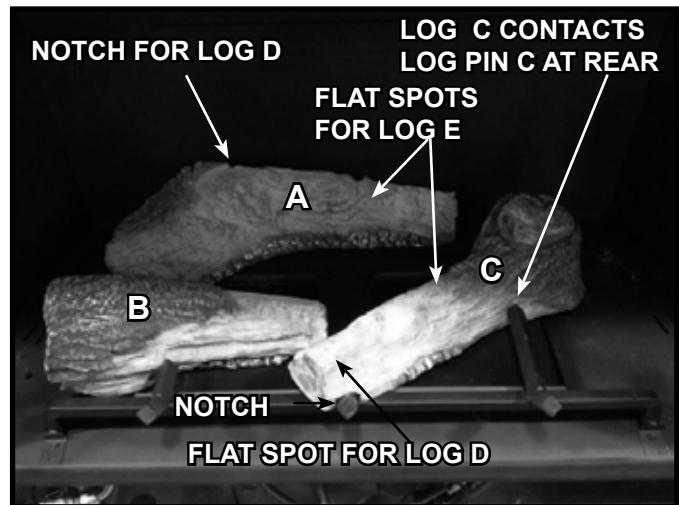
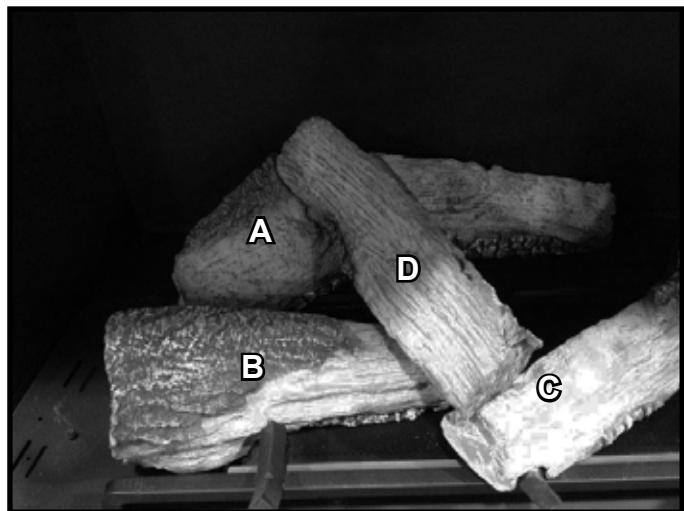
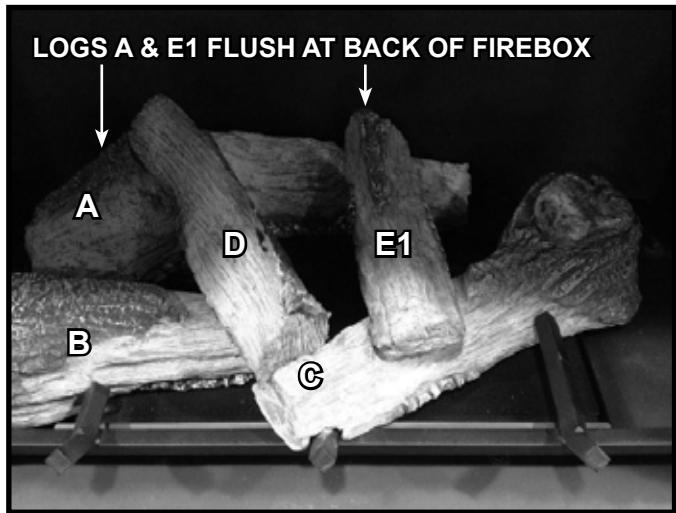

Figure 7. Log C Installed
Figure 8. Log D Installed
Figure 9. Log E Installed
3. (LOG C): Locate the notch on Log C. Place the notch over the center grate tine, and rear of log between the right grate tine and Log Pin C as shown in Figure 7. Move notched end of log forward until it stops, then rotate rear of log to rear until it contacts Log Pin C.
4. (LOG D): Log D will utilize two flat spots for its placement as shown in Figure 7. The flat spots are located on Log A and on Log C. Locate the end of Log D that does not have bark and place it into the notch on Log A. Place the other end of Log D on the flat spot on Log C. See Figure 8. The front edge of Log A may lift off the burner/hearth pan slightly when Log D is placed properly.
5. (LOG E1): Log E will utilize two flat spots for its placement as shown in Figure 7. The flat spots are located on Log A and on Log C. Place the "bark" end of Log E1 on the flat spot on Log A. Rest the other end of Log E on the flat spot of Log C. The back of Log E1 should be flush with the back of Log A. See Figure 9.